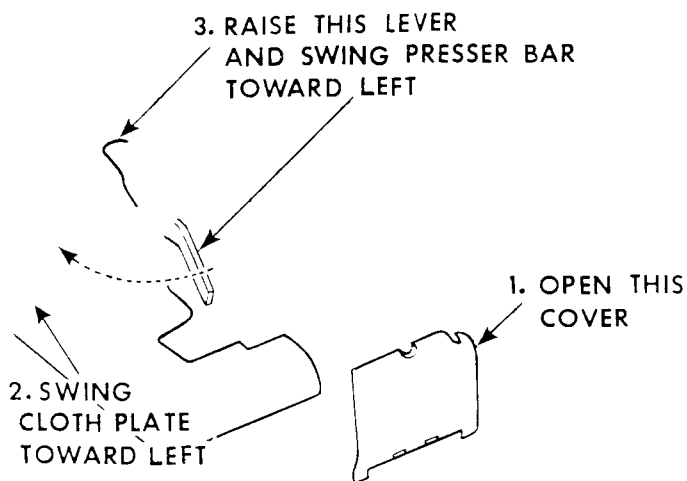

Fig. 8. Preparation for Threading
- . . . Open front cover plate, as instructed in **Step 1, Fig. 8.**